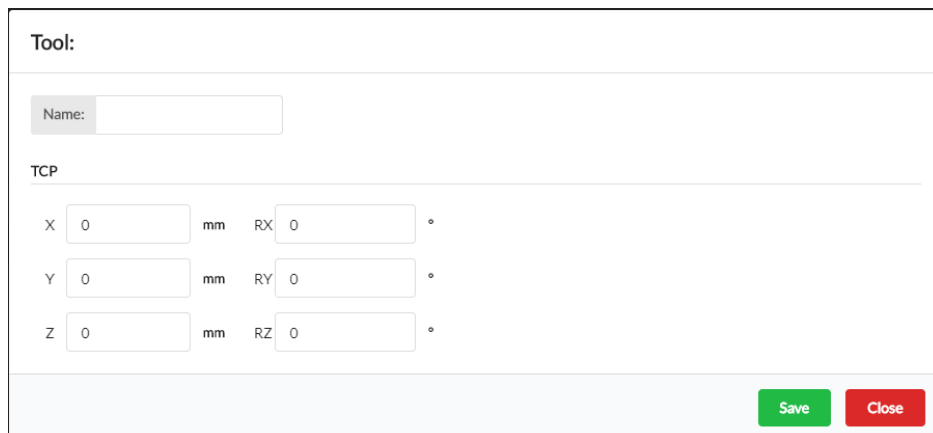

Figure 4-3: Tool configuration dialog
- **Set tool** - Possibility to define a Tool end point as a shift of robot TCP coordinates. See the feature dialog on Figure 4-3.